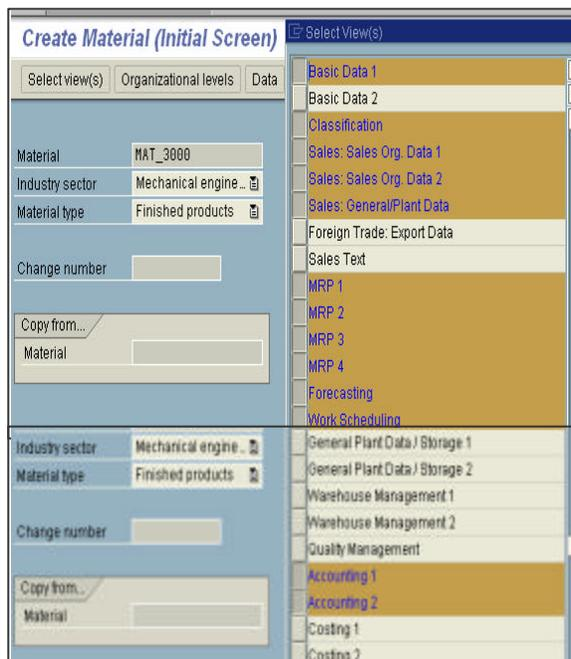

Figure 58: Entering initial data
2. In the Create Material (Initial Screen) as shown in Figure 58 enter the following:
3. Select the views as shown in Figure 58. Press enter and click **Organizational levels**.